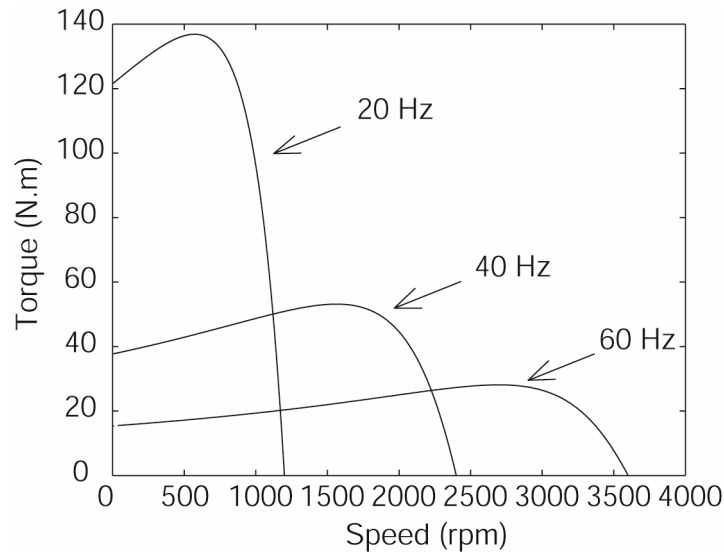

Figure 1: Torque Curves of an Induction Motor
Fig. 1 shows a set of torque curves for a typical induction motor. The torque is plotted as a function of the speed ω , expressed in rpm, for a given electrical frequency (the three curves correspond to electrical frequencies of 20 Hz, 40 Hz, and 60 Hz respectively). For the motor under consideration, the number of pole pairs is $n_p = 1$, and a frequency of 60 Hz
Equation (3) as well as Fig. 1 show that the torque decreases rapidly when the electrical frequency increases.
where $T_s=1e-3$ is the sampling period. Plot the acceleration ($d\omega/dt$) vs. slip ($\omega_e - \omega$) for synchronous frequencies corresponding to 3,600 rpm, 2,400 rpm, and 1,200 rpm. You should recognize the shape of the torque curves shown in the Fig. 1, but expect a very approximate resemblance, given the need to reconstruct acceleration.